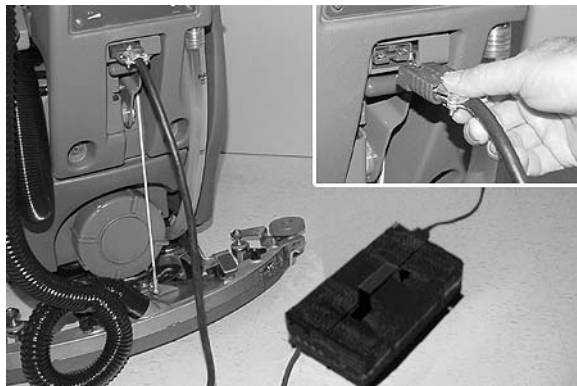

FIG. 42
6. Connect the charger's DC cord into the machine's battery receptacle at the rear of the machine (Figure 42).